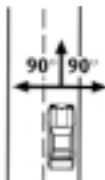

figure 6
3. Ensure the correct alignment of the transponder (figure 6).
It is of great importance to correctly align the transponder. This applies to both the vertical and the horizontal positions (see figure 6).